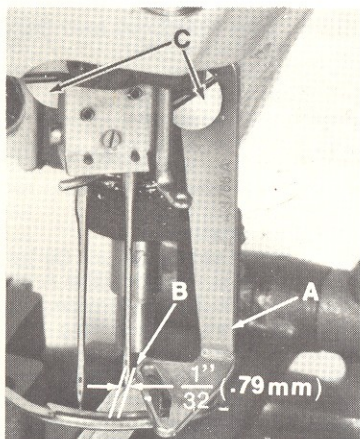

**FIGURE 20**
Stationary spreader thread guide (A, Fig. 20) should be located approximately 1/32 inch (.79 mm) from right needle at point (B). Adjustment is made by loosening screws (C) and moving the guide as required. Retighten screws securely after adjustment.